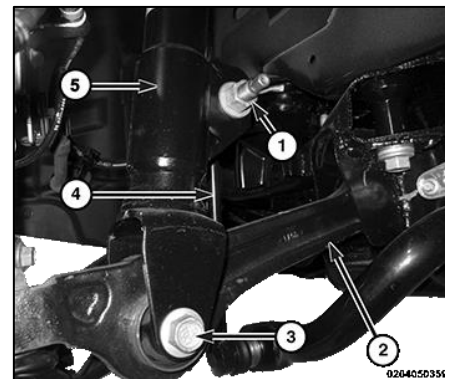

Figure 2
5. Remove the stabilizer link to strut nut (1). Slide stabilizer link (4) from shock assembly (5). <Figure 2>
6. Remove the strut to lower control arm bolt (3). <Figure 2>